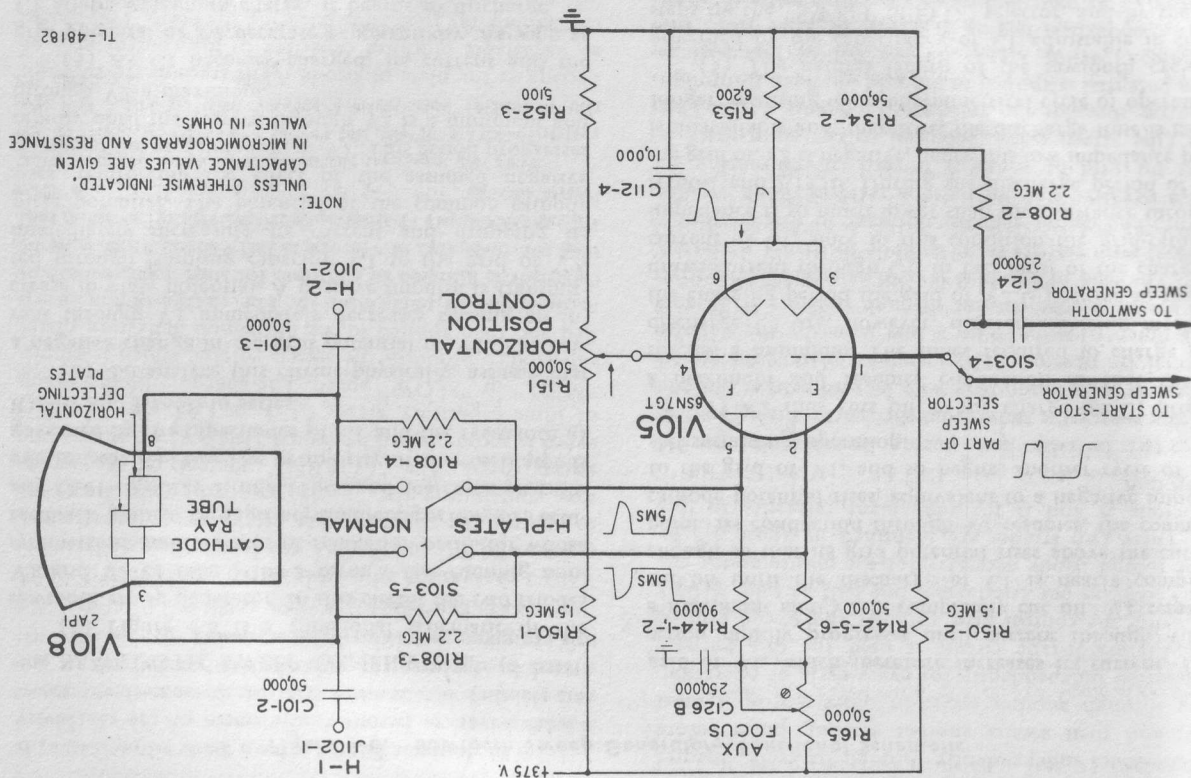

Figure 4-7. Sweep Amplifier—Functional Schematic
(1) The input to the sweep amplifier, figure 4-7, is through the second half of the "SWEEP SELECTOR" from either the start-stop or the sawtooth sweep generator. The sweep amplifier not only magnifies the voltage pulses it receives but transforms these pulses, which are wholly unbalanced with respect to ground, into approximately balanced voltages which act on the cathode-ray beam in a push-pull manner, the voltage on one horizontal deflecting plate attracting the beam while that on the other plate repels it. This transformation is accomplished in a twin triode tube V105, the cathodes of the two halves being coupled through a common cathode resistor R153.
horizontal deflecting plates through 50,000-microfarad coupling capacitors C101-2 and C101-3, as shown by figure 4-7. When switch S103-5, designated "NORMAL-H PLATES" on the right control panel, is in its "NORMAL" position, these terminals are also connected to the plates of the sweep amplifier through these same capacitors. When this switch is in position marked "H PLATES," 2.2-megohm decoupling resistors are inserted between the sweep amplifier and the horizontal deflecting plates so that the deflecting plates are not then shunted by the low impedance to ground through the sweep amplifier.